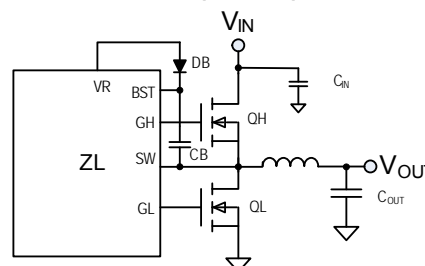

FIGURE 5. SYNCHRONOUS BUCK CONVERTER
Figure 5 illustrates the basic synchronous buck converter topology showing the primary power train components. This converter is also called a step-down converter, as the output voltage must always be lower than the input voltage. In its most simple configuration, the ZL6105 requires two external N-channel power MOSFETs, one for the top control MOSFET (QH) and one for the bottom synchronous MOSFET (QL). The amount of time that QH is on as a fraction of the total switching period is known as the duty cycle D , which is described by Equation 1:
The gate drive voltage for the high-side MOSFET driver is generated by a floating bootstrap capacitor, CB (see Figure 5). When the lower MOSFET (QL) is turned on, the SW node is pulled to ground and the capacitor is charged from the internal VR bias regulator through diode DB. When QL turns off and the upper MOSFET (QH) turns on, the SW node is pulled up to VDD and the voltage on the bootstrap capacitor is boosted approximately 5V above VDD to provide the necessary voltage to power the high-side driver. A Schottky diode should be used for DB to help maximize the high-side drive supply voltage.